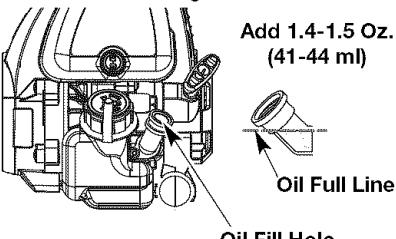
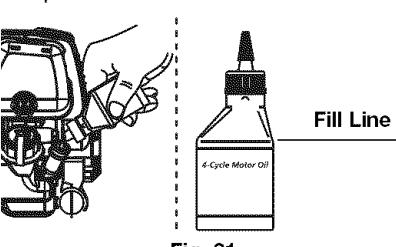

Fig. 19
Fig. 21
5. Check the oil level. Oil should be just to the bottom of the threads of the oil fill hole. (Fig. 19).
6. If the level is low, add a small amount of oil to the oil fill hole and recheck (Fig. 19). Repeat this procedure until the oil level reaches the bottom of the threads in the oil fill hole.
NOTE: Use the bottle and spout saved from initial use to measure the correct amount of oil. The top of the label on the bottle measures approximately 3.04 ounces (90 ml) (Fig. 21). Check the level (Fig. 19). If the level is low, add a small amount of oil and recheck. Do not overfill.